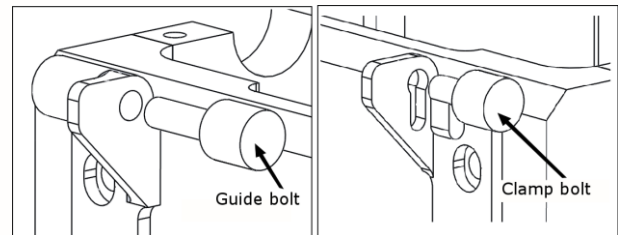

Fig 1C. Location of bolts hinges
1. Place the lid on the knives box matching the lid bolts with notches of hinges (See Fig. 1C) on the left side of hinges.